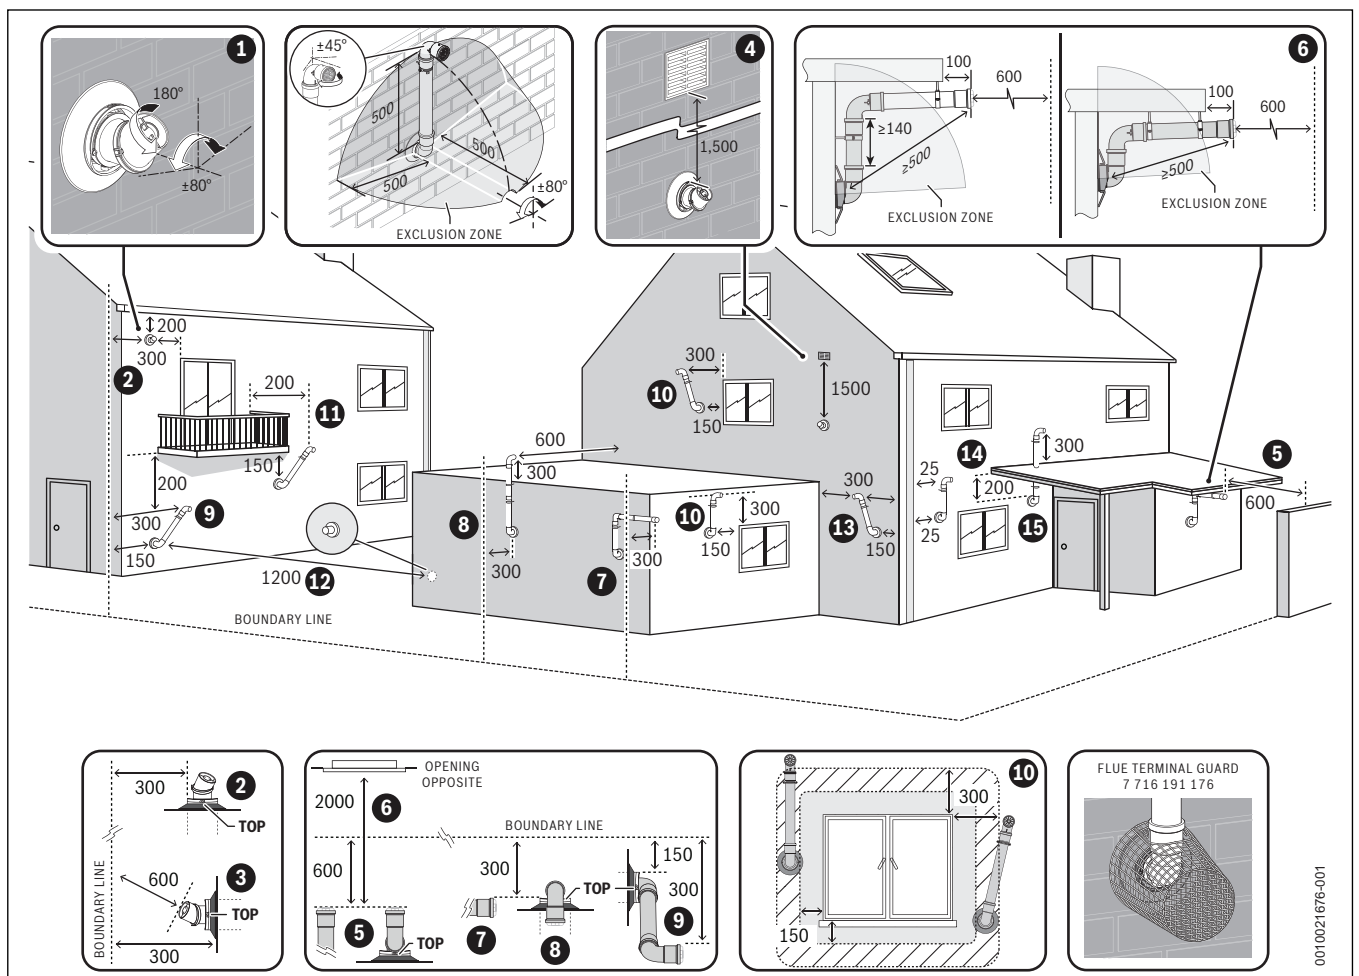

Fig. 28 Plume re-direct and plume management terminal positions
- ▶ Refer to "Horizontal flue terminal positions" for all concentric flue terminal positions unless the flue position is specified in figure 28 "Plume re-direct and plume management terminal positions".
Key to figure 28 - Plume re-direct terminal positions:
Key to figure 28 - Plume management terminal positions: